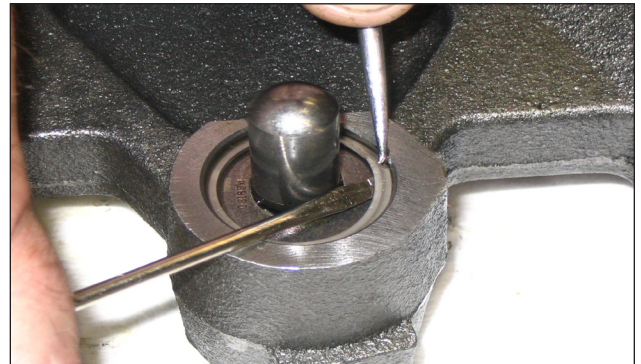

Fig 26
1. Use mechanic's pick to wedge screwdriver blade beneath spirolox ring (See Fig. 26).